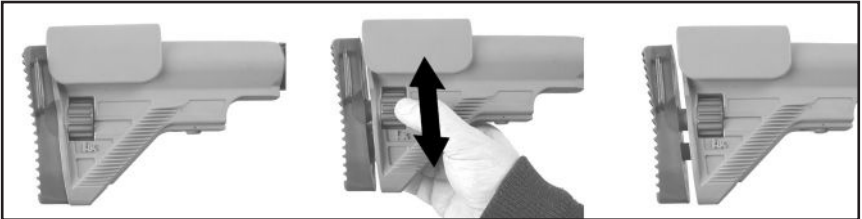

Fig. 93 – Adjusting the Length, Fine Adjustment
3. Adjusting the Length: Fine Adjustment (Fig. 93)